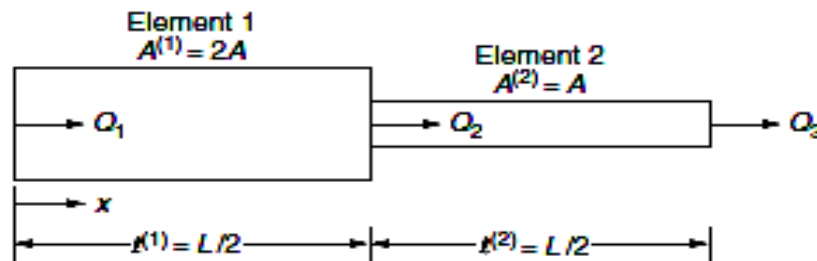

Figure.5
19. (a) Find the stiffness and mass matrices of longitudinal vibration of the unconstrained stepped bar shown in Figure.5. CO4 -Ana (16)